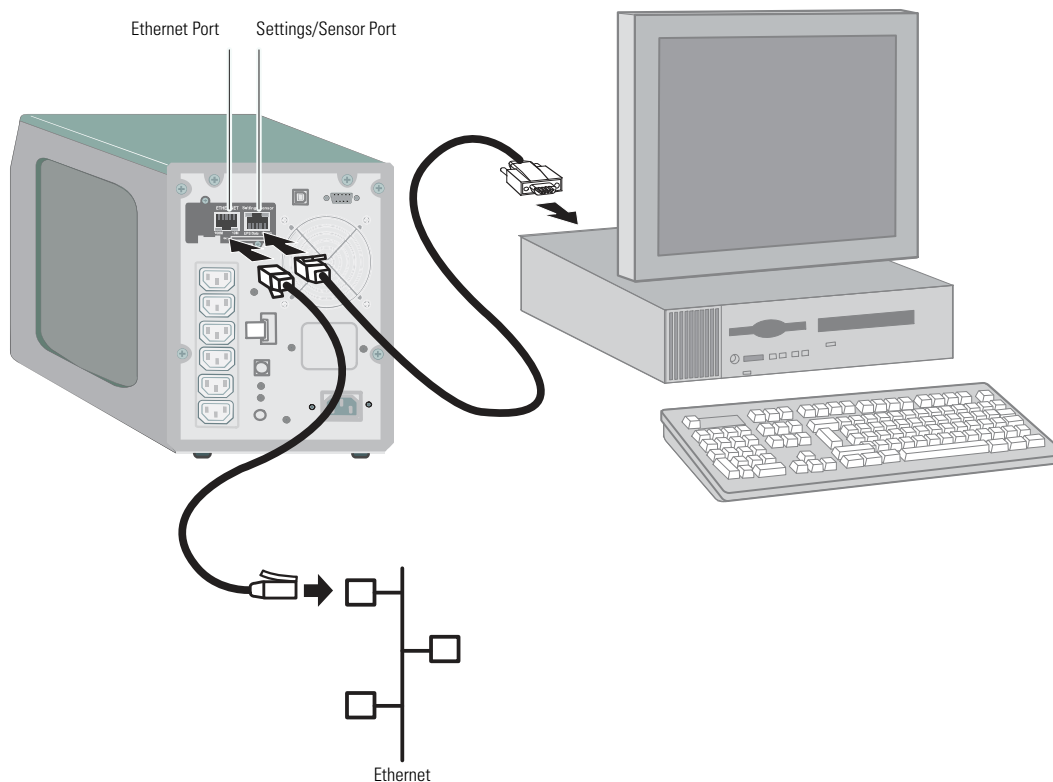

Figure 5. Connecting the Card
1. Plug the RJ-45 end of the supplied serial cable into the Settings/Sensor port on the card (see Figure 5).
3. Connect an active Ethernet cable (not supplied) to the Ethernet port on the Network Card-MS (see Figure 5).